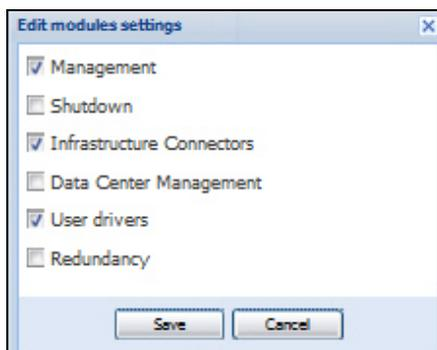

Figure 121. Enable Infrastructure Connectors Setting for Virtualization
2. Click **Edit modules settings** in the right panel. The Edit modules settings dialog box displays (see Figure 121).